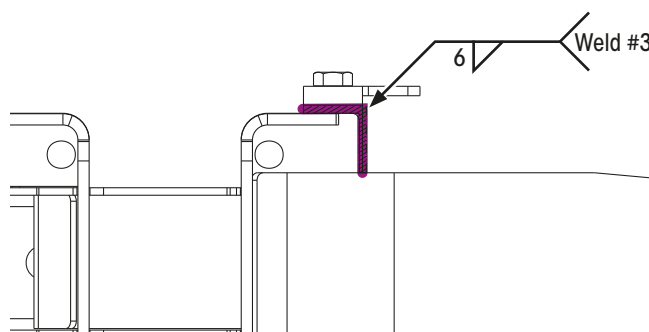
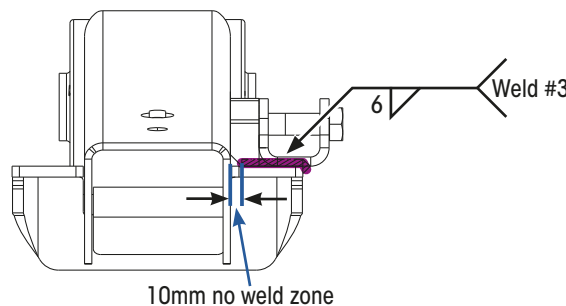

Figure 8: Weld #3 Underneath View
Figure 9: Weld #3 Rear View
6. **WELD 3.** Weld lower part of clevis and reinforcement block to trailing arm bracket, including underneath. Do not weld in the 10mm no weld zone, which is at the U-bolt bracket weld. Refer Figure 8 and Figure 9.